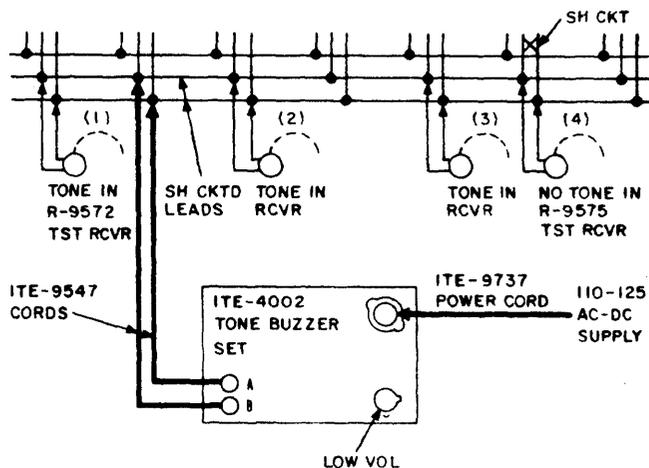

Fig. 6 - Trouble Location Using Tone Buzzer (Pars. 12.20, 12.21, 12.22 and 12.23)
12.18 Connect the A and B terminals of ITE-4002 to the leads in trouble at one of the multiple appearances as shown in Figure 6 and observe that the buzzer operates. If buzzer fails, reverse position of power plug in the receptacle.
12.20 To locate the short circuit connect an R-9572, test receiver to the leads in trouble at the multiple appearance nearest the source of tone as shown by (1) of Figure 6. If a low volume of tone is heard with the receiver the cross is at some other multiple appearance.
12.21 Continue to check the leads in trouble at the multiple appearances in a direction away from the source of tone, as indicated by (2), (3) and (4) of Figure 6 until the tone can no longer be heard with the receiver.